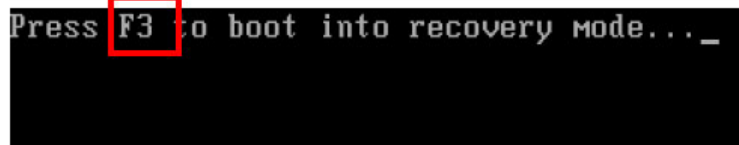

Figure B-7: Press F3 to Boot into Recovery Mode
Step 1: Turn on the system. When the following screen displays (**Figure B-7**), press the <F3> key to access the recovery tool. The message will display for 10 seconds, please press F3 before the system boots into the operating system.